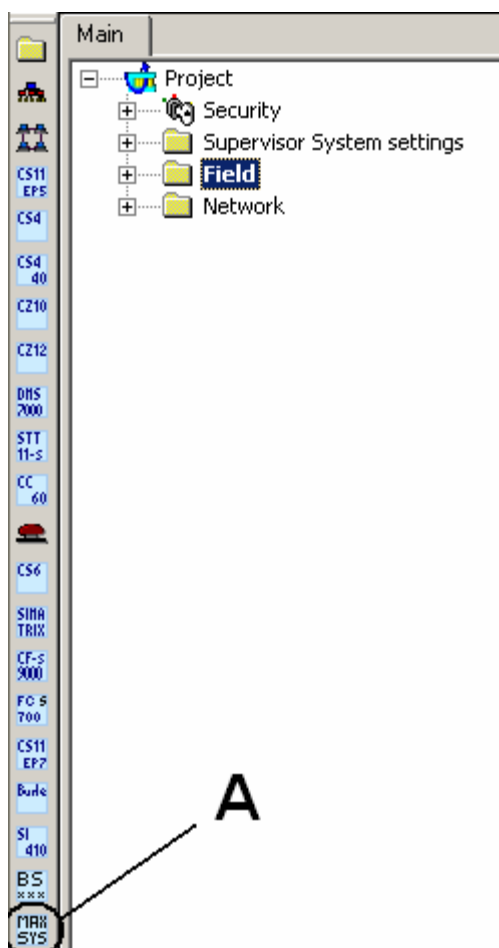

Fig. 11 Adding a MAXSYS subsystem (A)
2. Select the MAXSYS icon  (see Fig. 11):